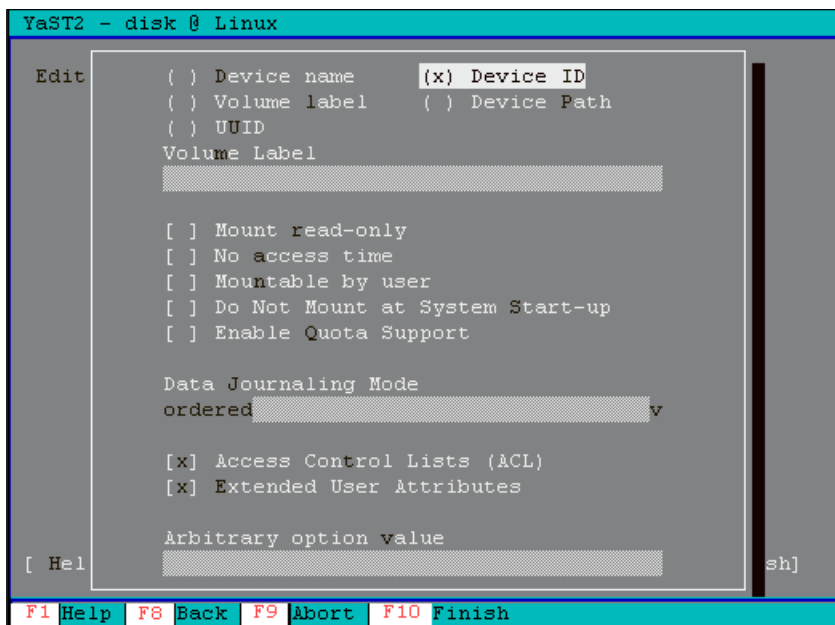

Figure 20-5 Select Device ID
- d. Select Device ID and press F10 to finish as shown in Figure 20-5.